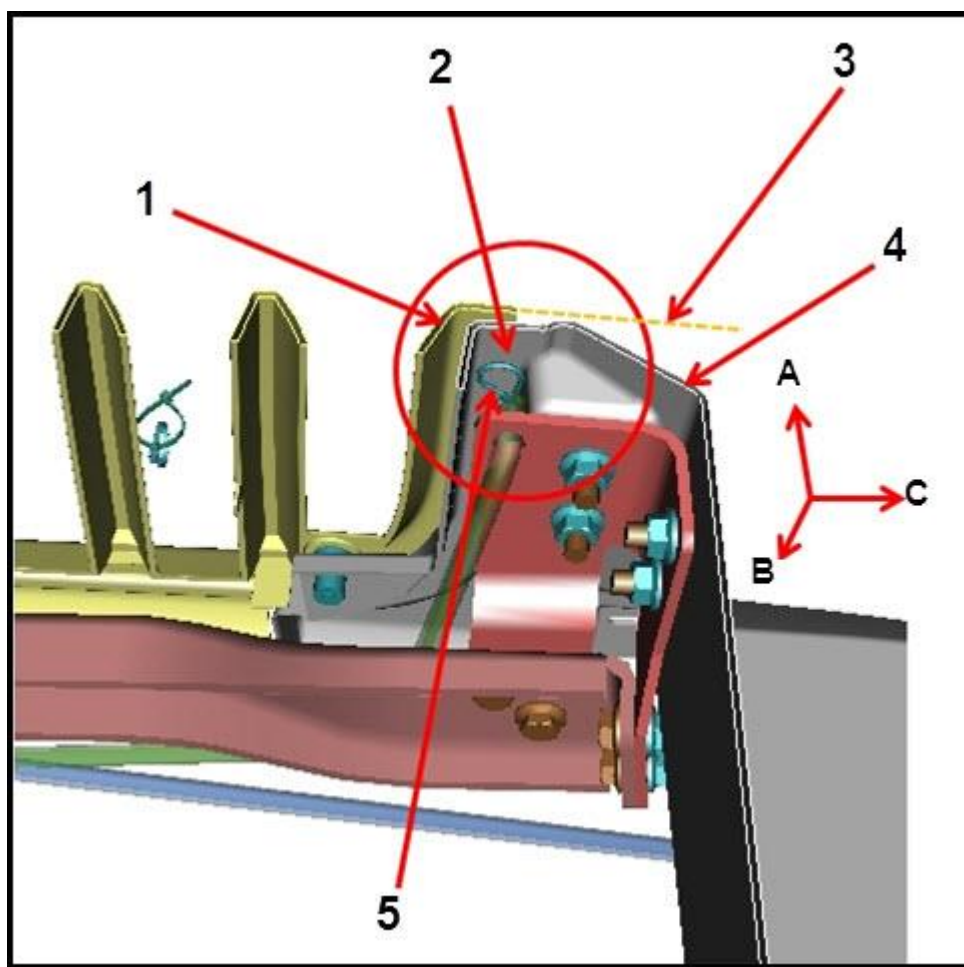

Figure 1
1. Overview of area affected (section through grille/hood looking forward and down) (*Figure 1*):